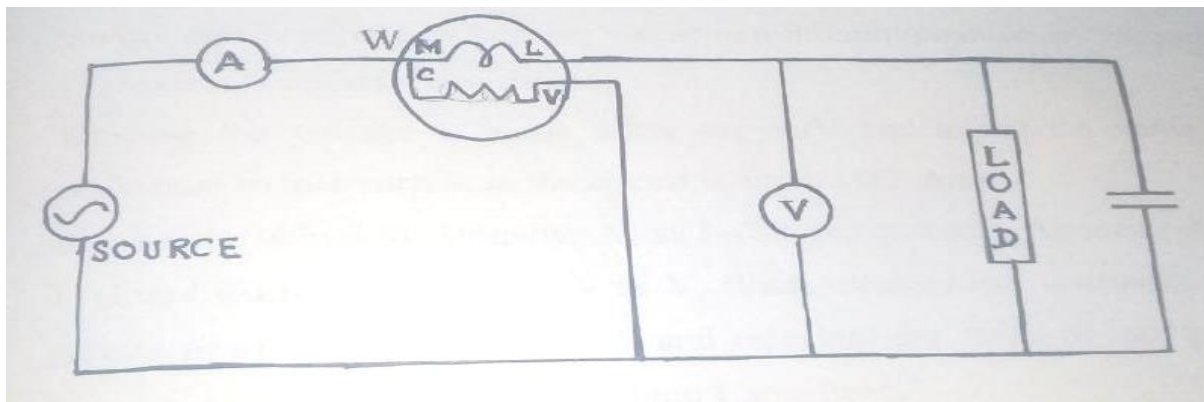

Figure 2
By adding capacitor in parallel with load as shown in Figure 2, some of the reactive power is supplied by the capacitor depending upon value of the capacitance added in parallel with the load resulting in reduction of apparent power (S) supplied by the source and hence power factor of the circuit being $\cos \Phi = P/S$ increases. Hence power factor improves.